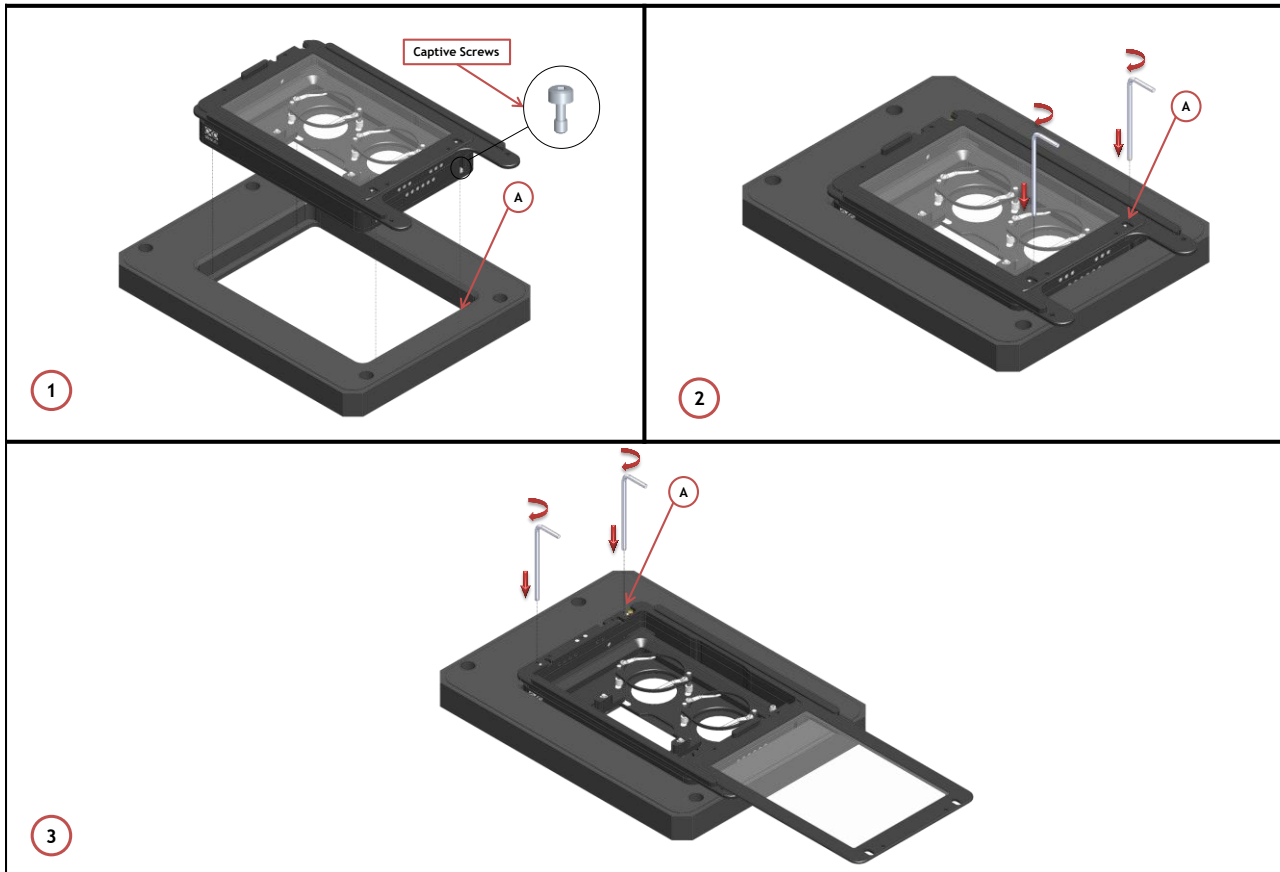

Figure 23. Connection of the Chamber with Galvo Stage
Follow the steps shown in the images of Figure 23 and listed below in order to correctly connect the chamber with Z piezo stage.
1. Place the chamber on the stage and tighten 2 captive screws (See Image 2 of Figure 23). Captive screws housings are indicated with letter B in Image 2 of Figure 23
2. Use a 1.5mm metric Allen Wrench to tighten the two captive screws (B in Image 3) while keeping the chamber sliding lid closed (See Figure 23 Image 3)
3. Tighten the other captive screws (B in Figure 23 Image 3) while keeping the chamber sliding lid open.